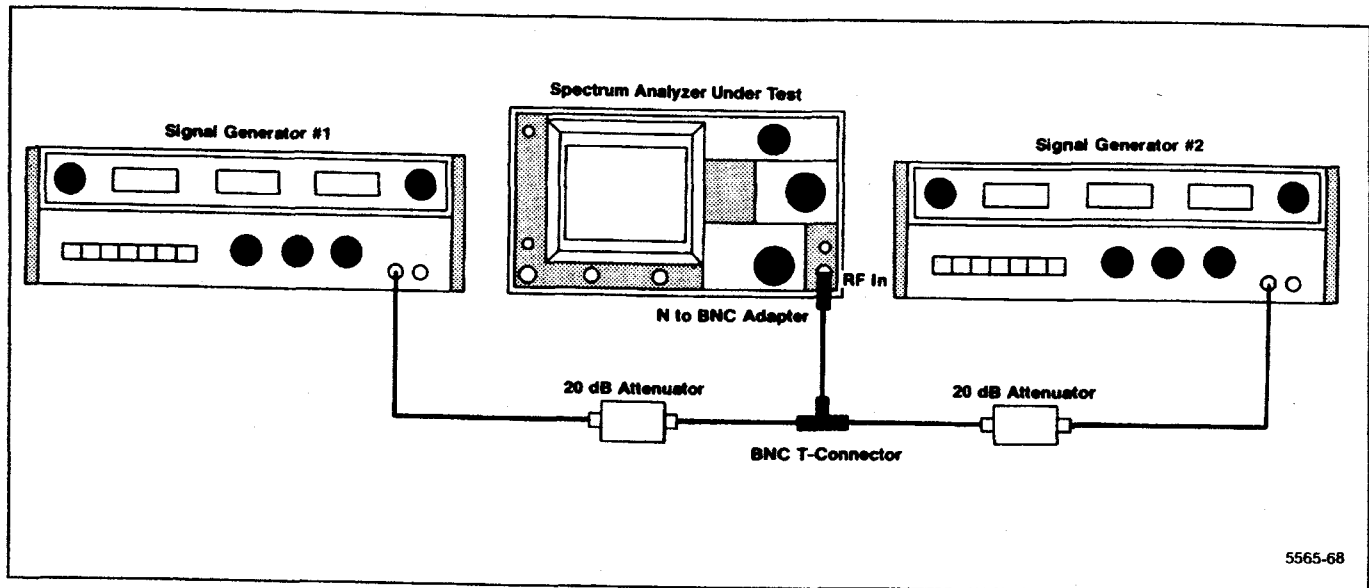

Figure 4-16. Test equipment setup for checking intermodulation distortion.
a. Connect the test equipment as shown in Figure 4-16, and set the Spectrum Analyzer controls as follows: